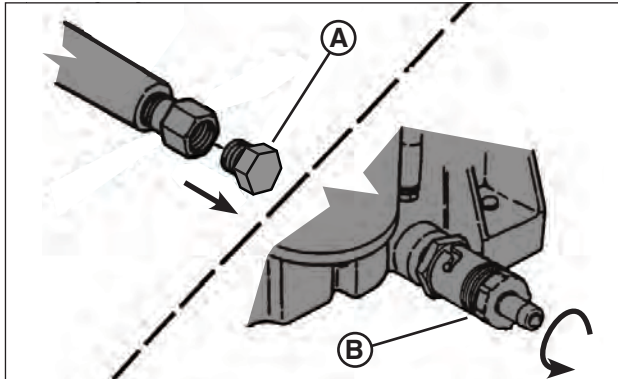

Figure 22: Oil drain plugs
3. Place a 2 quart minimum capacity container under the end of the oil drain (Figure 22).
4. Remove or open the oil drain plug (A or B, Figure 22), depending upon the type of oil drain plug the engine is equipped with.